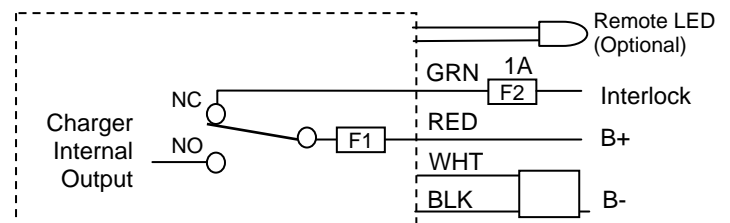

Figure 2: Standard Charger Connections
- 1) The green interlock wire provides a safety interlock function, by outputting battery voltage when the charger is not plugged into AC. (see Figure 2).